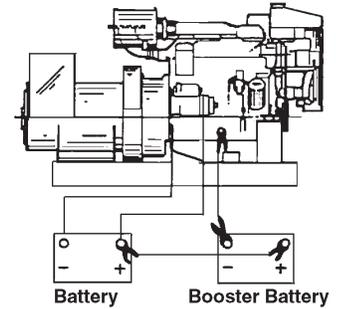

Figure 20: Battery connections.
3. First, connect positive (+) terminal of booster battery to positive (+) terminal of main battery. Then, connect negative (-) terminal of booster battery to ground on the engine block (see Figure 20).